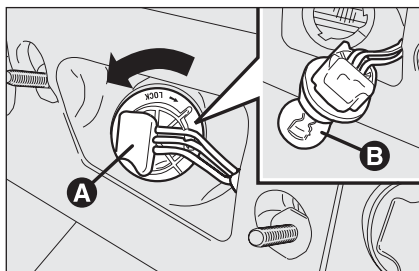
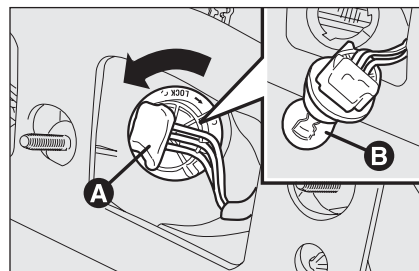

fig. 33
fig. 34
- ☐ turn the bulb holder **A-fig. 33** or **A-fig. 34** counterclockwise, remove the bulb **B** and replace it;